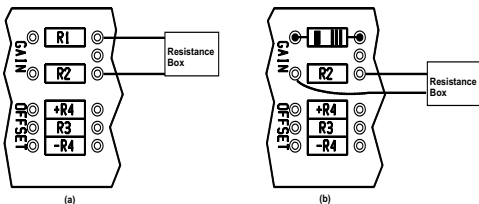

Fig 3.5 Temporary Resistor Connections - Gain
- 1) Temporarily connect a variable resistance (such as a decade box) to the board as in Fig. 3.5(a). Set the resistor to an initial value as shown in the table.